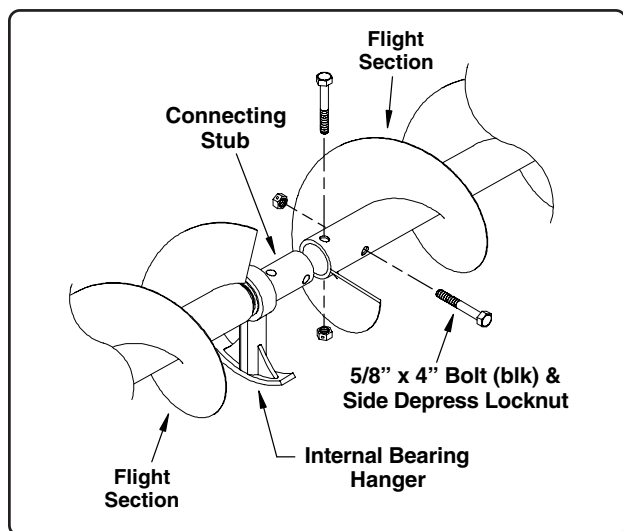

Fig. 42
1. **Before connecting the flight sections together**, slide an internal bearing hanger onto the end of the flight connecting stub. Apply anti-sieze compound to the connecting stub and attach the flight to the next flight section. Secure using two 5/8" x 4" bolts (blk) and side depress locknuts (See Fig. 42).